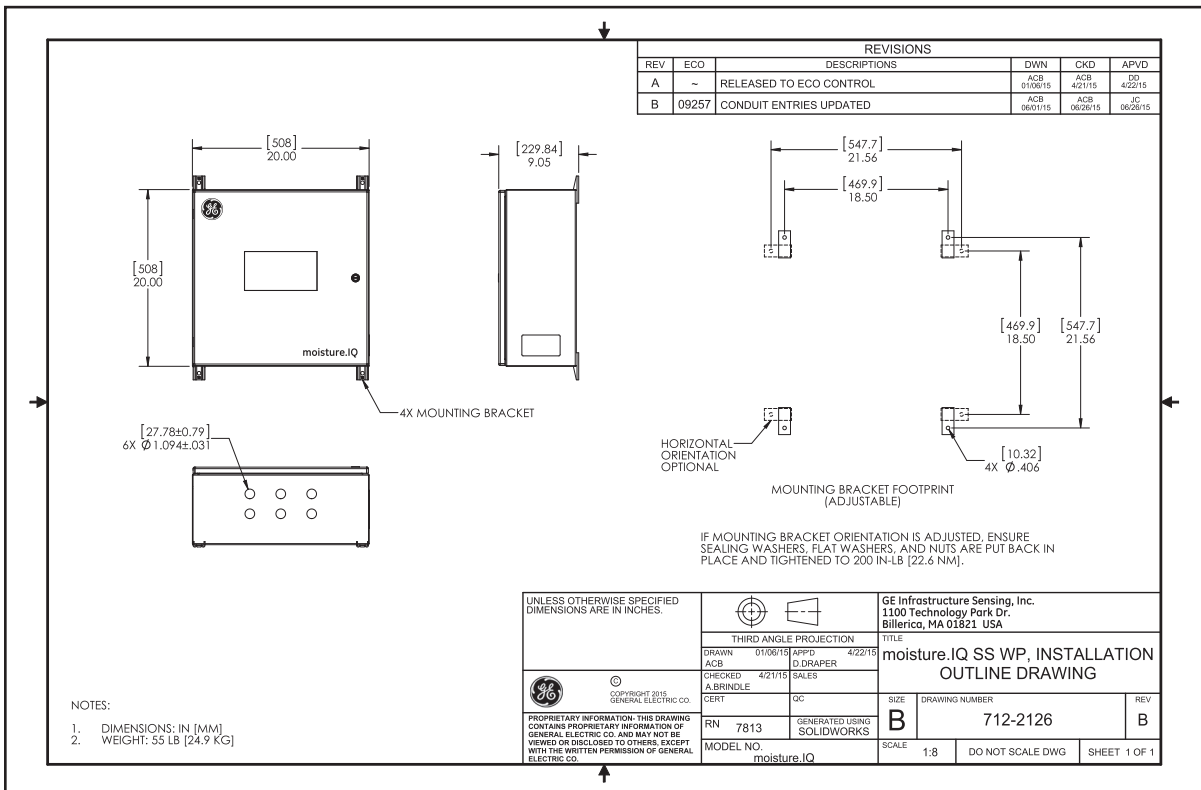
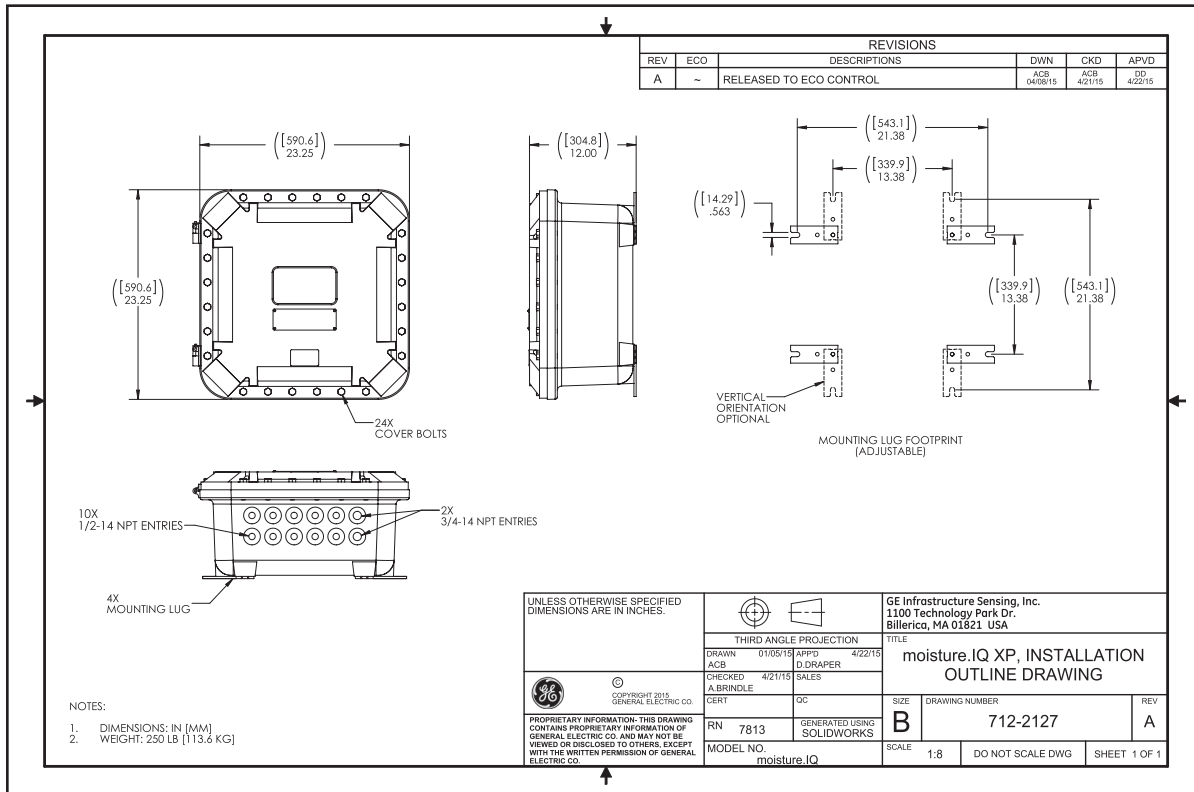

Figure 12: SS-WP Installation Outline Drawing (Dwg. 712-2126\_revB, SH 1 of 1)
Figure 13: XP Installation Outline Drawing (Dwg. 712-2127\_revA, SH 1 of 1)
- The installation should comply with installation drawings 712-2126 stainless steel weather-proof (see *Figure 12 on page 7*), 712-2127 explosion-proof (see *Figure 13 on page 8*), and 712-2130 fiberglass weather-proof (see *Figure 14 on page 8*).